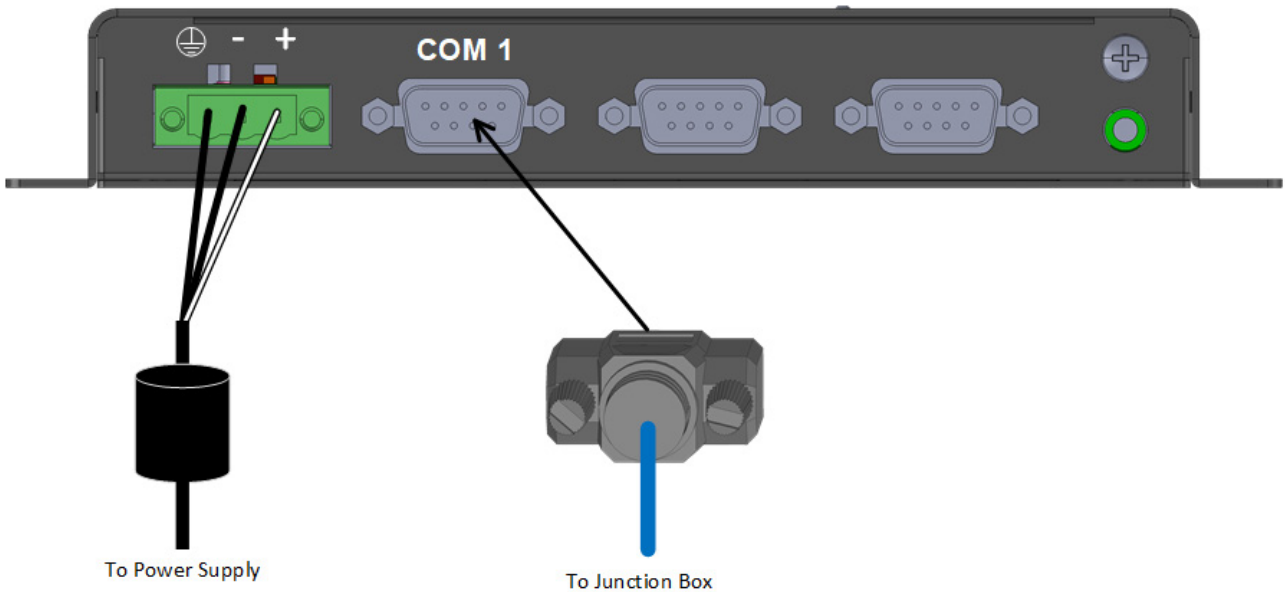

Figure 7: Insert 9 Pin Connector
1. Insert the Junction Box 9-Pin Connector into COM1 (Figure 7).